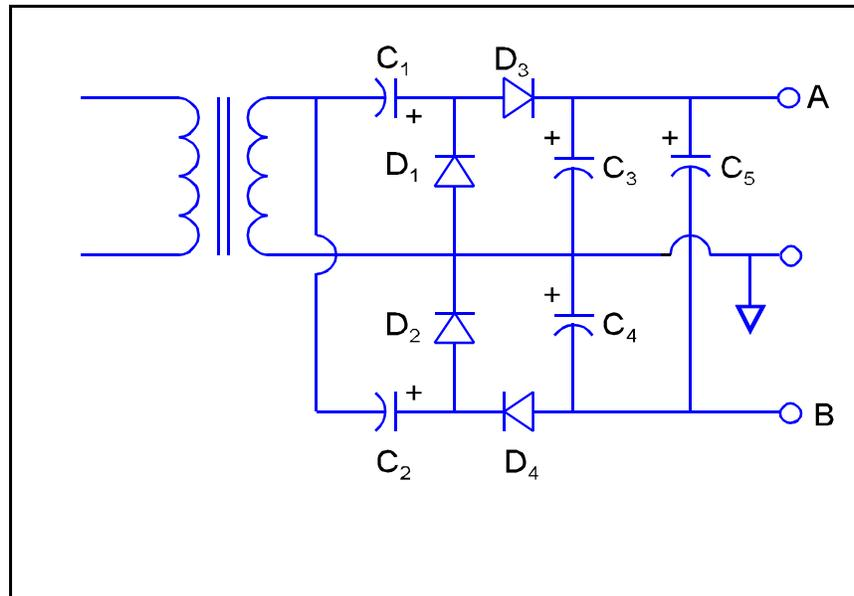

Figure 3 Voltage Quadrupler
15. Now assemble the circuit shown in Figure 3. Use 1N4001 diodes and 47 μ F capacitors C_1 to C_4 and a 100 μ F capacitor for C_5 .